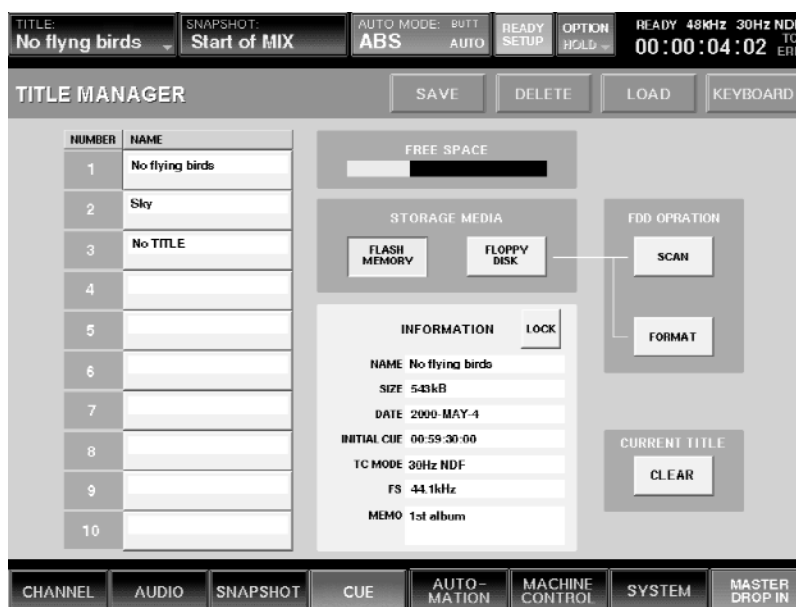

Figure 6
- 1 Press the SYSTEM tab in the touchscreen. From the pop-up menu select TITLE MANAGER; the window appears. (See Figure 6)